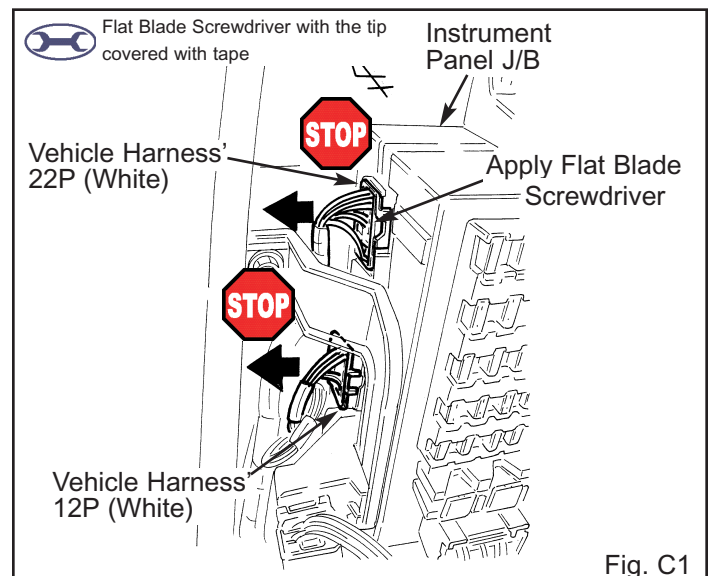

Fig. C1
1. Locate and disconnect the 12P and 22P connectors from the left side of the Instrument Panel J/B. (Fig. C1)